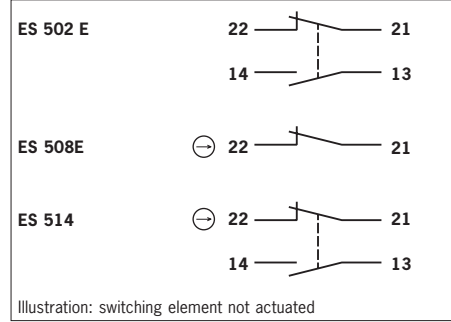

Figure 1: Switching elements and pin assignment
- ▶ For pin assignment see Figure 1